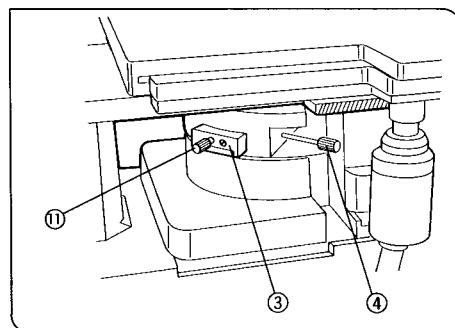

Fig. 95
3. Insert the transmitted light differential interference contrast slider (U-DICT) ③ with the analyzer facing downwards and engage it into the light path. Turn the clamping knob ④ to clamp. (Fig. 95)
- ◎ When using the IX-AN analyzer ⑤, insert it into the slider slot ⑥ under the revolving nosepiece. Insert as far as the click-stop. In this case, the analyzer U-ANT is not used. (Figs. 95, 96)
8. Turn the focusing ring ⑩ (the knurled ring in case of the focusing telescope) and bring the objective exit pupil into focus.
9. When the prism control knob ⑪ of the transmitted light differential interference contrast slider (U-DICT) is rotated all the way in the clockwise direction, the black fringe will be sandwiched between rainbow colored fringes and should go diagonally through the center of the field. (Figs. 95, 99)